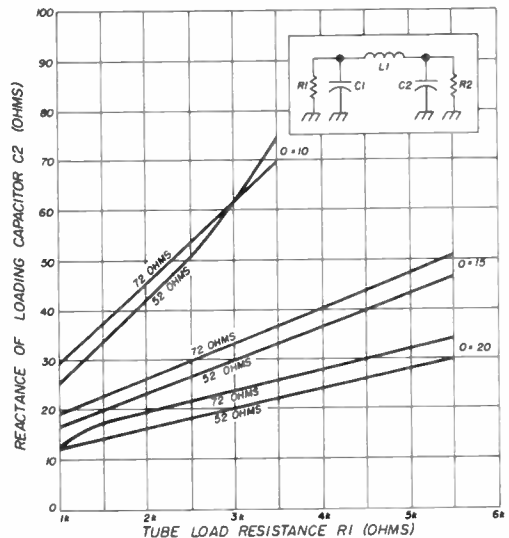

fig. 15. Reactance of the loading capacitor C2 as a function of tube load resistance for pi networks.
6. Find the reactance of the loading capacitor (C2) from fig. 15. For the case of 3-400Zs operating with a load resistance of 1560 ohms and a Q of 15, the reactance of the loading capacitor is about 20 ohms.